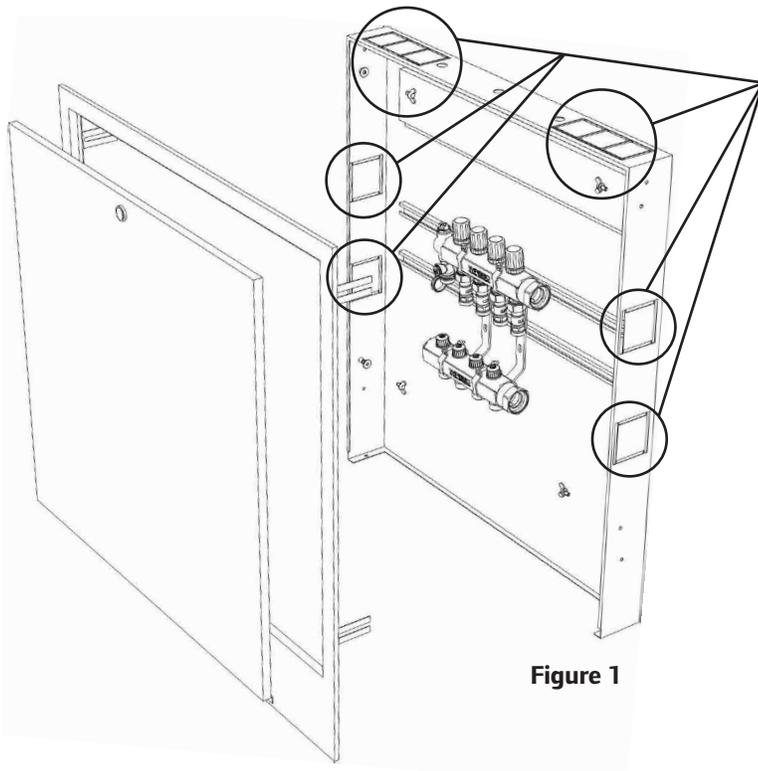

Figure 1
1. Remove the knockouts as applicable. (See **Figure 1.**)